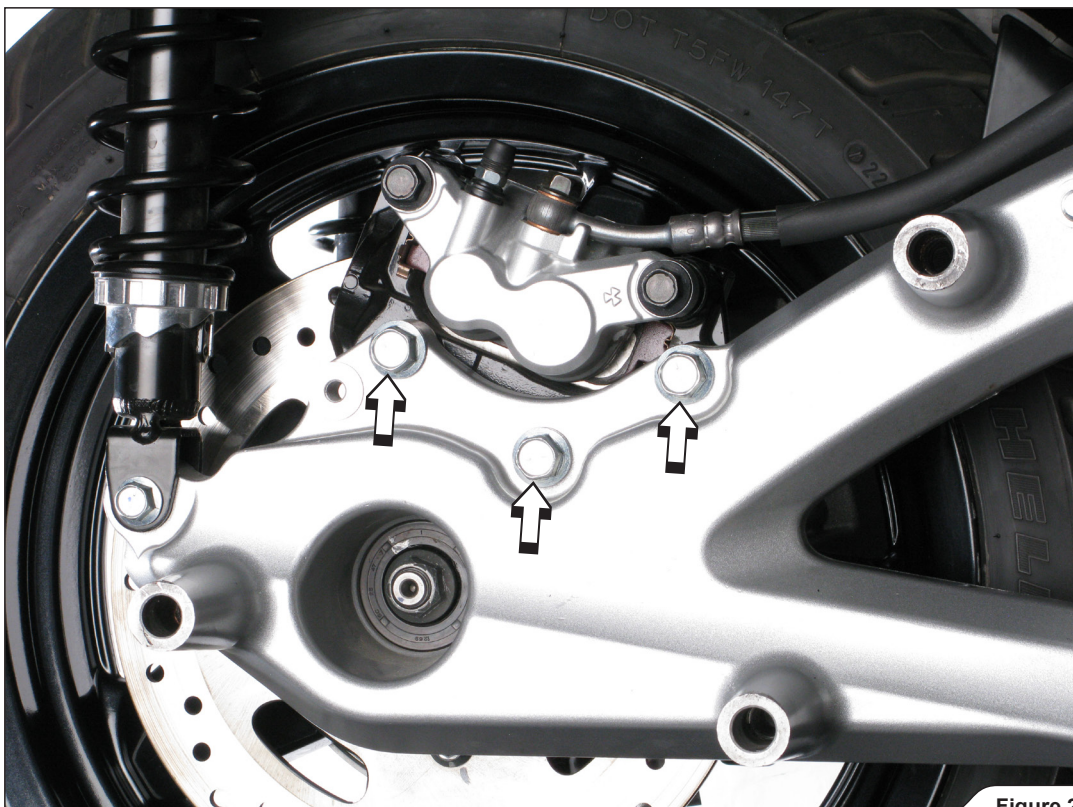

Figure 2
3. For X-MAX 250 / 250 ABS / 125 ABS / X-CITY 250 only: unscrew the marked rear brake caliper bolts (**Figure 2**).